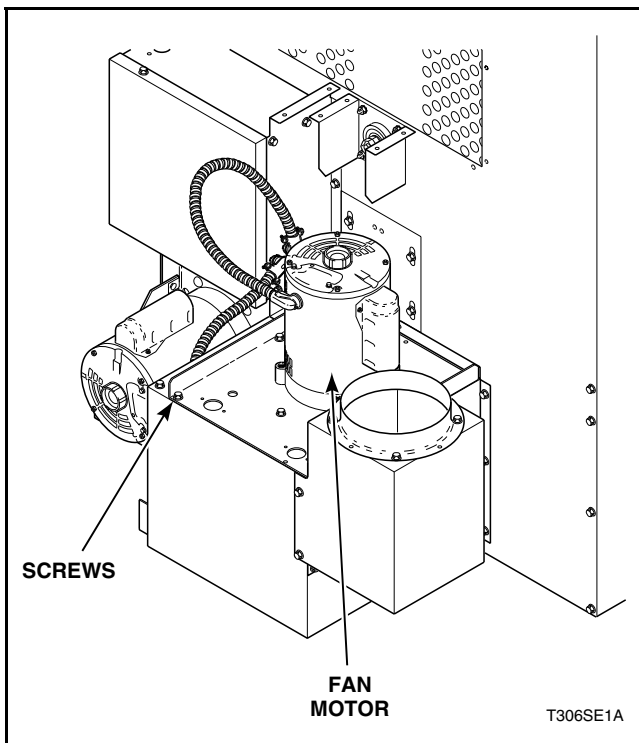

Figure 38
Refer to *Figure 38*.
- d. Remove ten screws holding fan motor assembly to blower housing. Refer to *Figure 38*.